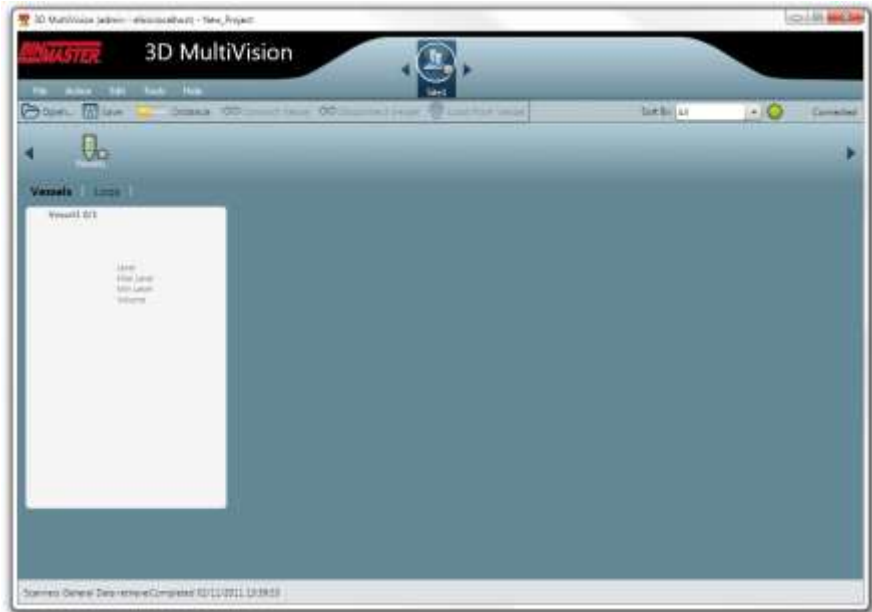

Figure 17: The project window
Set the connection type between the 3DVision Server computer and the scanners in the site. HART modem (limited to one scanner on a COM port), and RS-485 selections are available. Choose the proper serial com port for the server PC connection. Click **Finish**. The new project is created and the project window appears (Figure 17). A selector box appears on top for each vessel in the project as shown to the right.
- 2 Double click the vessel image to open the vessel measurements and details pane (see Figure 17). The "Overview" tab shows how many scanners are set for this vessel and their connection status.